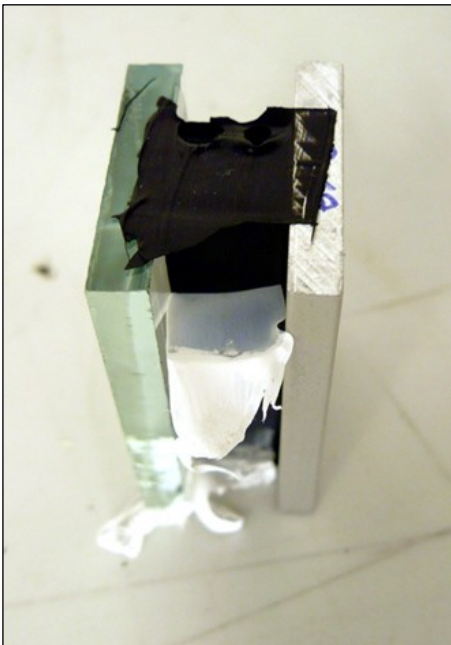

Figure 19: Remove spacers after 1 day, remove e-PTFE tape after 7 days (1-part adhesives).
- Remove the molds from the test specimen after storage at room temperature (remove spacers, adhesive tape or clamps, Figure 19).